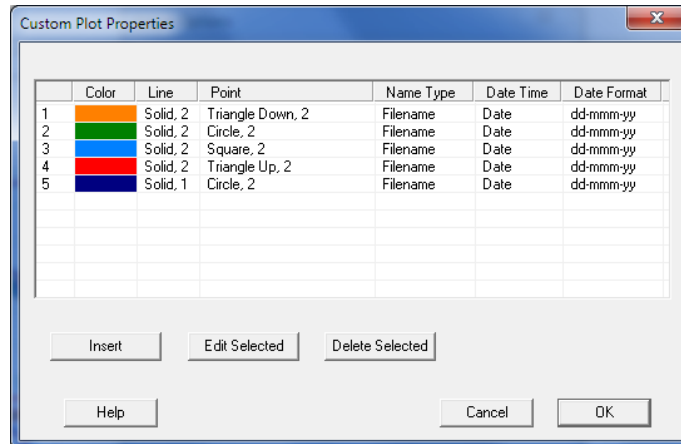

FIGURE 8-18 CUSTOM PLOT PROPERTIES
- **Plot Custom Properties:** click on **Edit Custom Properties** to modify settings saved in previous step. See Figure 8-18 for the sample dialog.